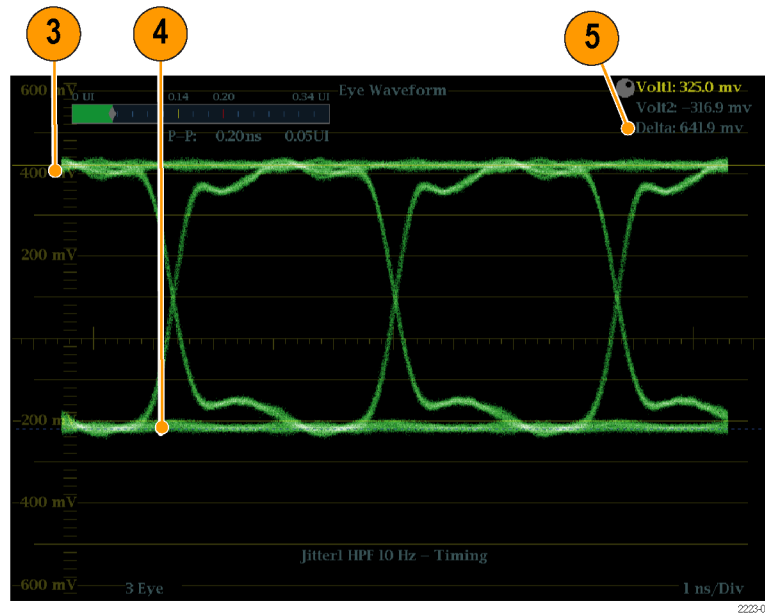

Figure 49: Eye measurement cursor placement
3. Position one voltage cursor at the top part of the waveform, ignoring any overshoot or undershoot on the rising or falling edges. (See Figure 49.)
4. Position one voltage cursor at the top part of the waveform, ignoring any overshoot or undershoot on the rising or falling edges. (See Figure 49.)
5. Note the amplitude of the eye waveform that is displayed in the Voltage Cursor readout. (See Figure 49.)